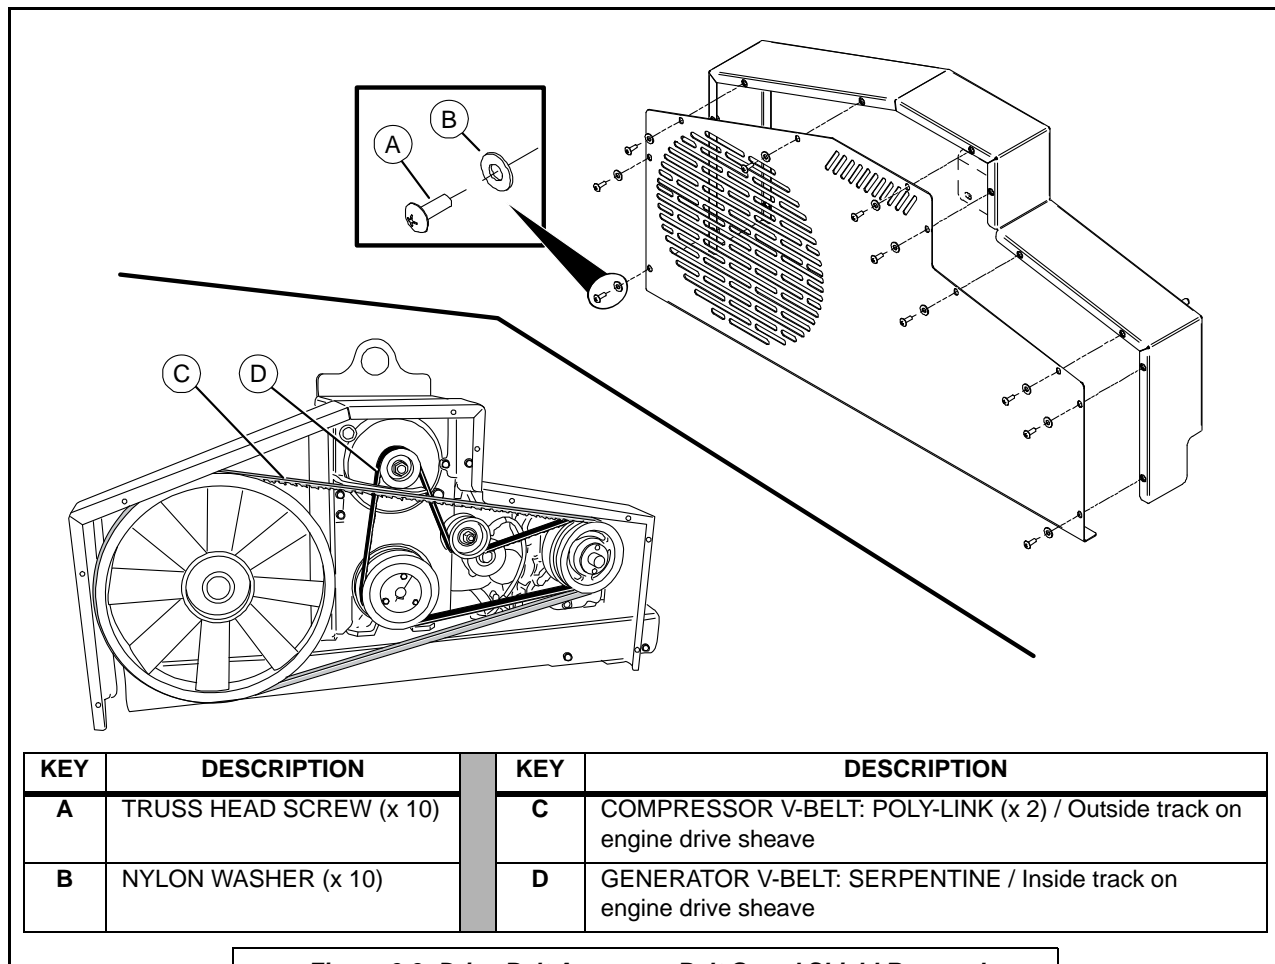
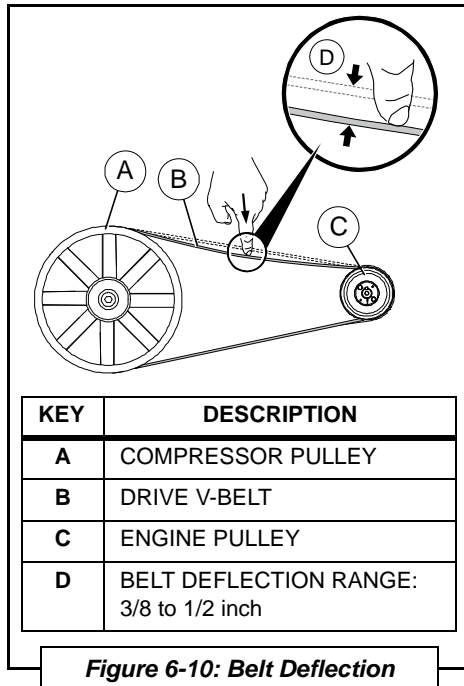

Figure 6-9: Drive Belt Access — Belt Guard Shield Removal
Figure 6-10: Belt Deflection
The belt guard must be removed to access the drive belts. The Air N Arc 200 Series All-In-One Power System utilizes two poly-link series v-belts to drive the compressor unit, and a single serpentine v-belt to drive the generator system. Consult **Figure 6-9**, and the following procedure to access the drive belts:
After the belts have been serviced, the belt guard must be secured back into position before the operating the machine. To re-secure the belt guard, refer to **Figure 6-9**, follow these instructions:
The poly-link v-belts used for the compressor drive do not require a separate tensioner. Rather, the belts are directly sized by the amount of links in the belt. Proper tension on a poly-link v-belt is 3/8" to 1/2" give (see **Figure 6-10**). Consult **Figures 6-9, 6-10, 6-11**, and the following procedure:
2. Check the deflection of each belt for looseness by applying pressure with a finger at the center location between the pulleys, as shown in **Figure 6-10**. The “give” should be in the range of 3/8 to 1/2 inch for each belt.